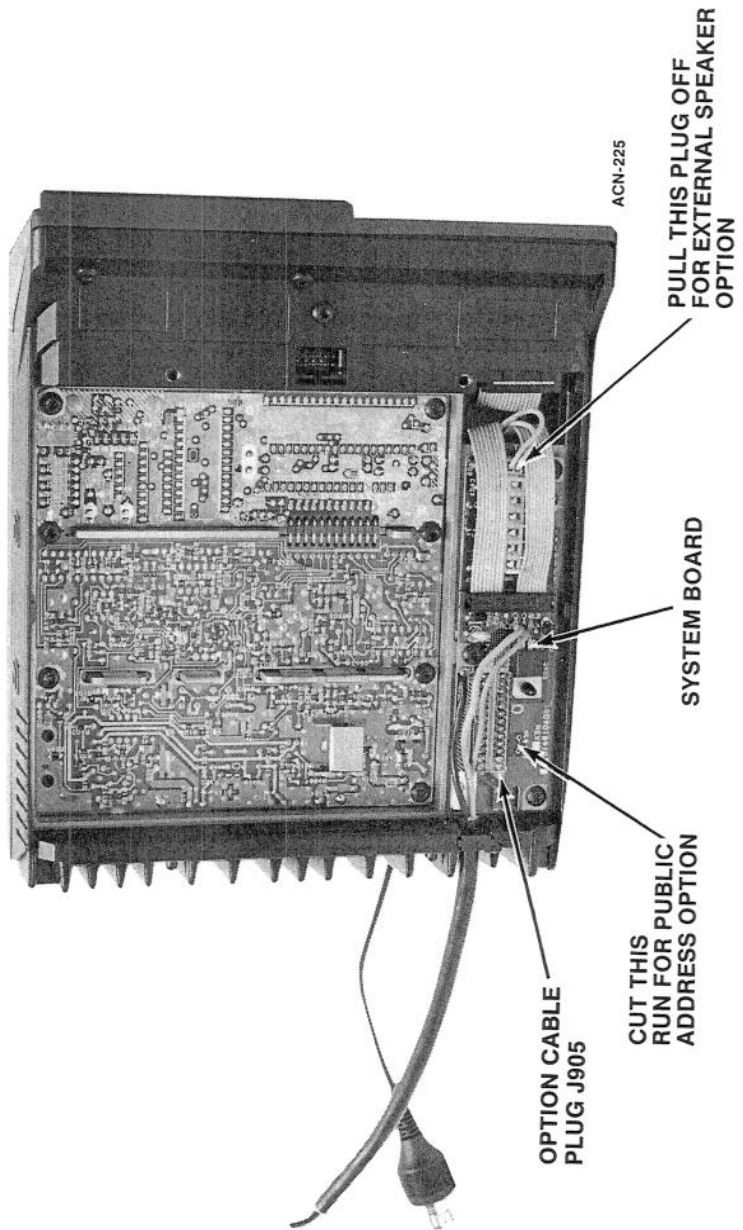

FIGURE 11 - BOTTOM VIEW (COVER REMOVED)
2. Cut the PC run between holes 6 and 7 on the System Board which will allow switching of the internal speaker. Refer to Figure 11.
2. The EEPROM is on the Logic Board which is under the Audio Board. Remove the Audio Board by first pulling out the black clip shown in Figure 11. Remove the four #15 TORX screws securing the Audio Board to the radio. Pry out the board by inserting a screwdriver in the hole that was occupied by the clip.
3. Plug the Option Cable into J905A on the System Board and push the strain relief on the cable into the slotted opening. Refer to Figure 11.
If the tone decoder requires switching the internal speaker, remove the radio bottom cover and cut the PC run between holes 6 and 7 on the System Board. Refer to Figure 11 for the PC run identification.